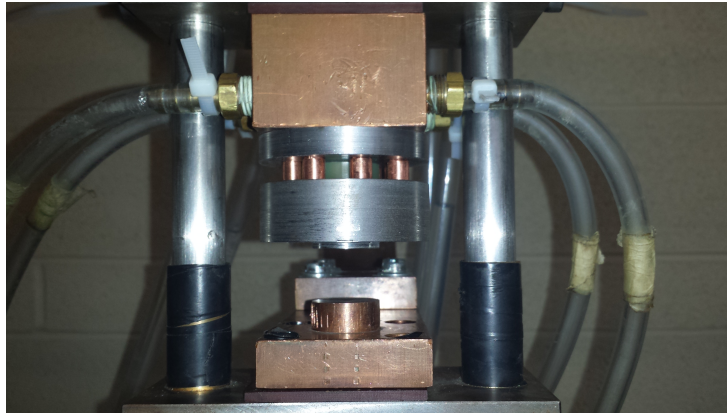

Figure 6. Installation of blank holder with electrodes.
11. Install the sliding electrodes (8 of them and blank holder as in Figure 6).